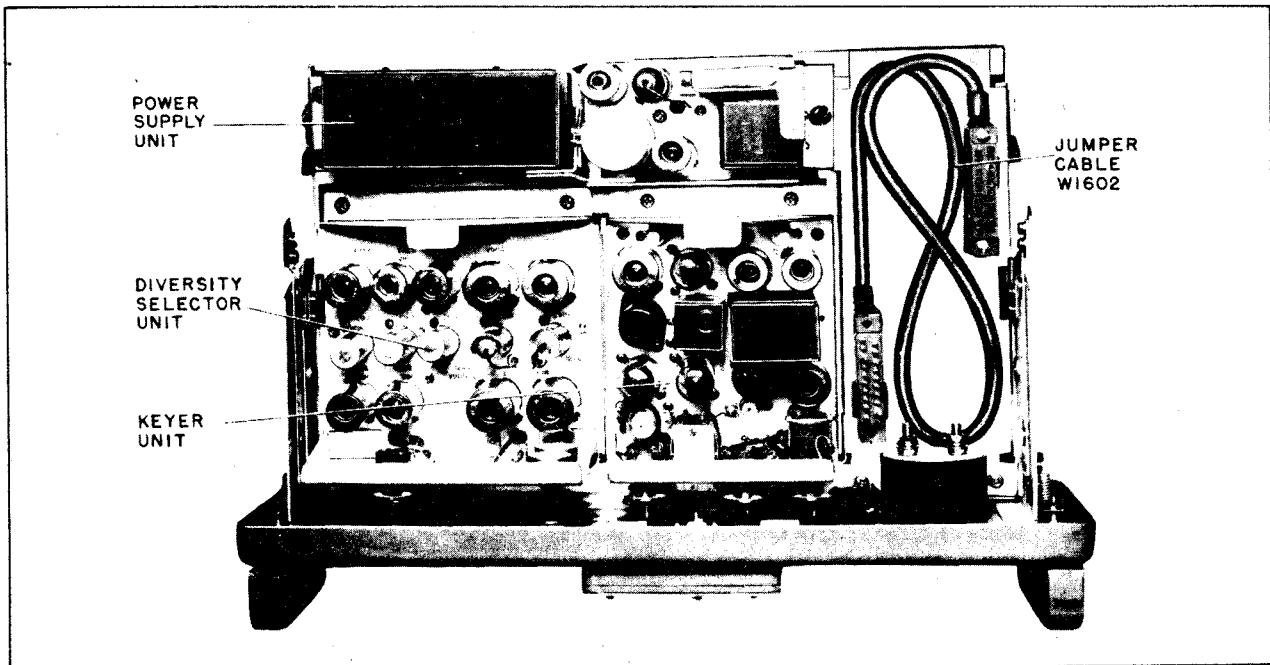

Figure 1-6. Comparator CM-14/URR Chassis, Top View
(1) COMPARATOR CHASSIS.—See Figure 1-6. The Comparator Chassis assembly supports all the Comparator units except the Cable Filter Unit which is mounted on the back of the case. The separate units are interconnected by plugs and jacks when inserted in place. A plug, J1601, on the rear of the main chassis connects the main chassis to J1301 on the Cable Filter Unit when in operating position. When servicing, the chassis can be slid out of the cabinet and locked in any one of four positions while still supported by cabinet rails. A jumper cable is provided for connecting the chassis (similar to that shown in Figure 3-6) with the